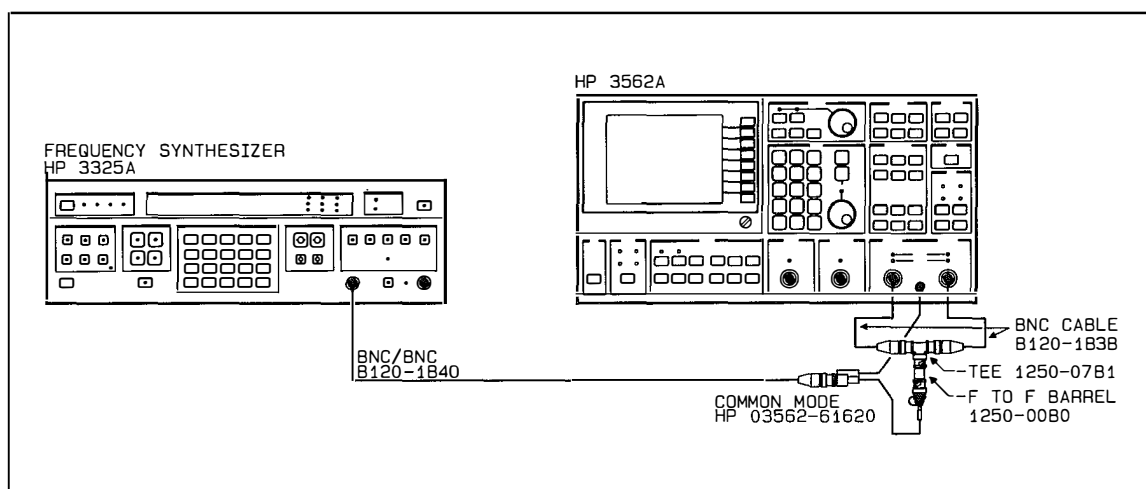

Figure 2-7 (OV) Common Mode Rejection Test Setup #2
- 5. Connect the test instruments as shown in figure 2-7.